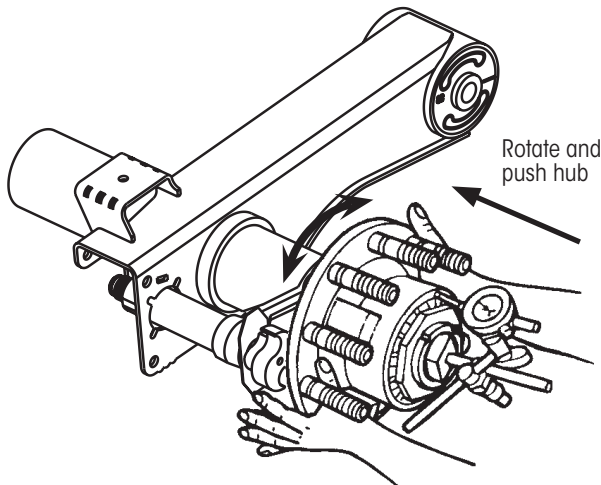

Figure 5: Checking inward end-play
NOTE: A reasonable assessment can be performed without removing tires and rims. However, this procedure is best performed with hub only as shown in Figure 5.
8. **Grasp** hub flange as shown in Figure 5, and **push** the hub inward **while rotating** the hub slightly in both directions (15 - 30° between two holes) until the dial indicator reading remains constant. **Record** reading.